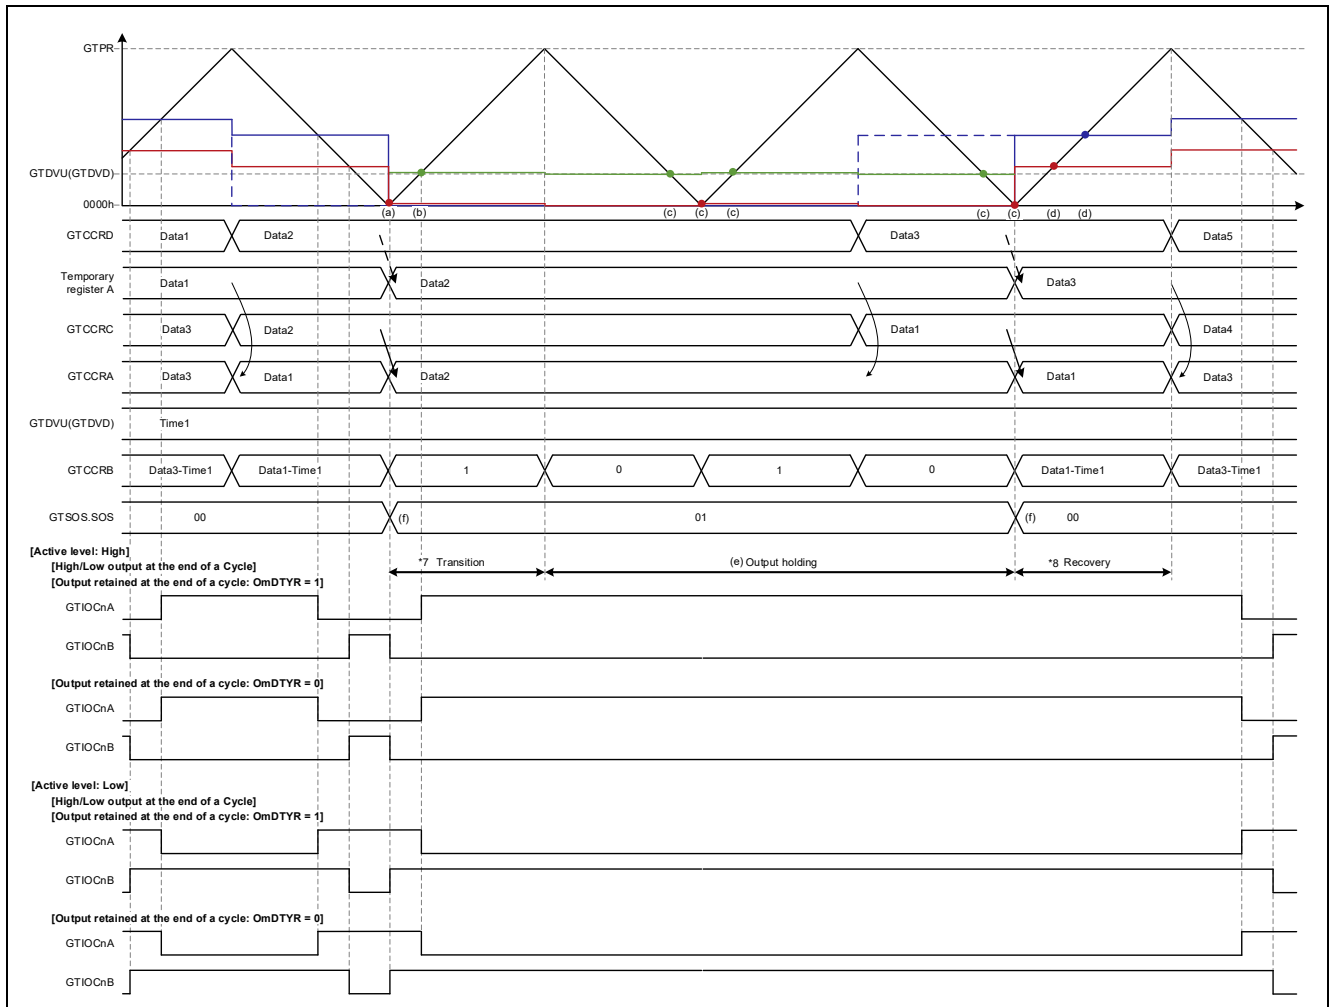

Figure 1.96 Triangle-Wave PWM Mode 3 Operation Example
- Operation Example 6: Figure 1.96 Triangle-Wave PWM Mode 3, Abnormal Value (Transfer at Trough)/Normal Value (Transfer at Trough), cautions 7 and 8
Figure 1.96 shows an operation example of transfer of 0000 0000h to GTCCRA via buffer transfer at trough and return via buffer transfer at trough of a normal value in triangle-wave PWM mode 3